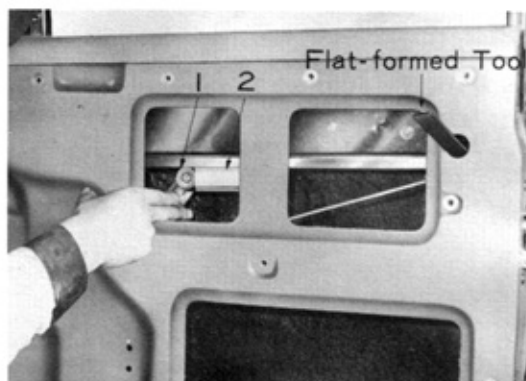

Fig.1-39 Window Regulator Installation V0409
6. Secure the glass with a flat-formed tool as illustrated in the Fig.1-39.
7. Position the window regulator in the door, and insert the window regulator roller(1) into the glass channel(2).